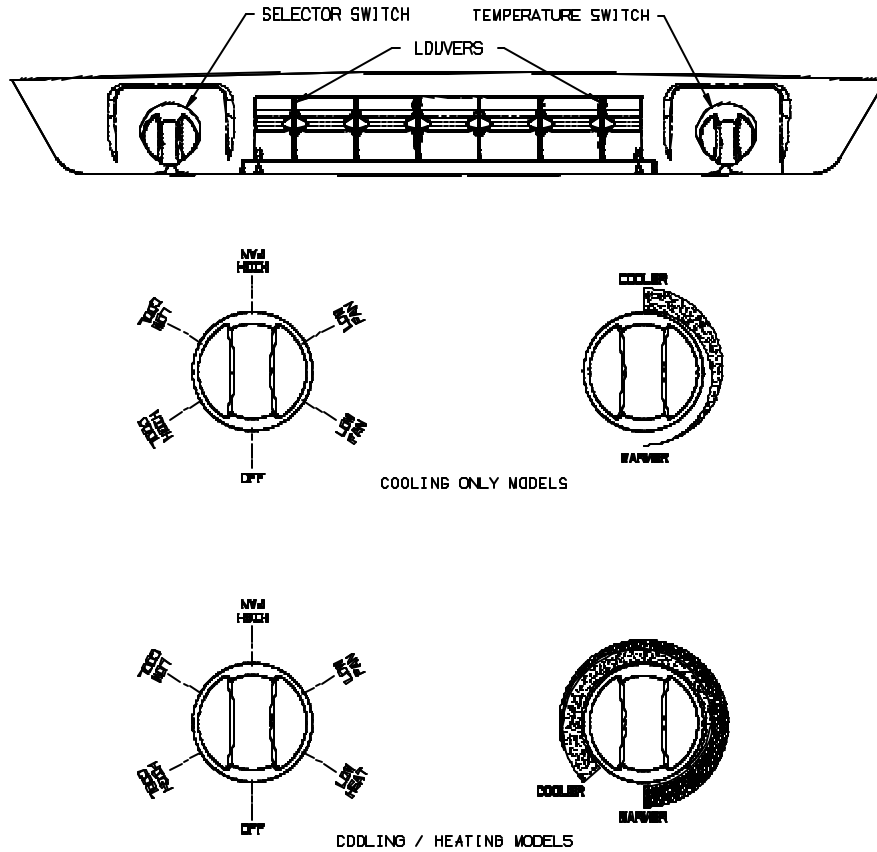

FIGURE 1
roof top unit and ceiling assembly. Figure 1 shows selector switch location and lists all available functions by model.
For "Heat/Cool" models, the thermostat also controls the "ON" and "OFF" temperature settings of the heater assembly (See Figure 1).
I. For Cooling (Refer to Figure 1, Page 3)
IV. For Heating ("Elect-A-Heat" Ceiling Assembly Model Only) Refer to Figure 1, Page 3)
For Air Circulation Only (Refer to Figure 1, Page 3)